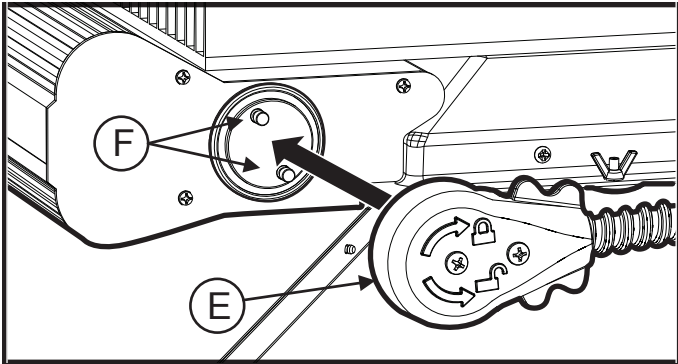

Figure 4
- To connect power to the light engine, align the GU24 connector whip "E" (see Fig 4) with the GU24 pins "F" on the light engine.